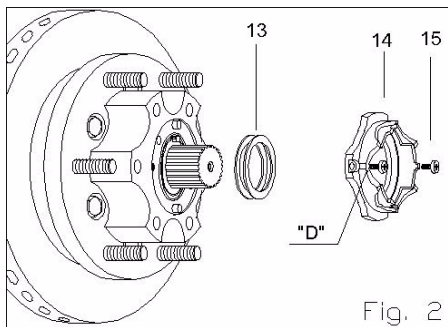
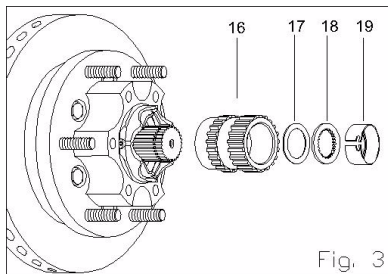

Fig. 2
Fig. 3
CLUTCH SUB-ASSEMBLY INSTALLATION (Fig. 2)
AXLE HUB AND LOCK RING INSTALLATION (Fig. 3)
11. Install cam follower (20) on axle hub (16) coinciding splines. When cam follower is on the splineless portion of the axle hub (16) turn it to allow its pins "C" (or legs) (Fig. 3) fit into the deepest part "D" of clutch sub ass'y (14) (Fig. 2). This will make assembly easier, since in this position, Free Wheel Hub is in 4X2 and no effort will be needed to fix the bolts.
12. Apply grease around o-ring (22).